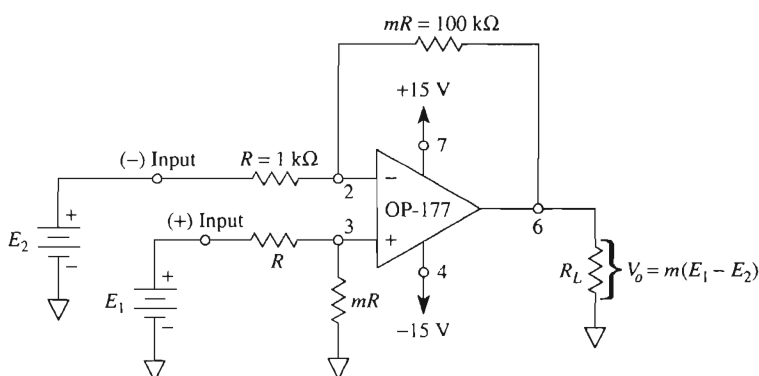
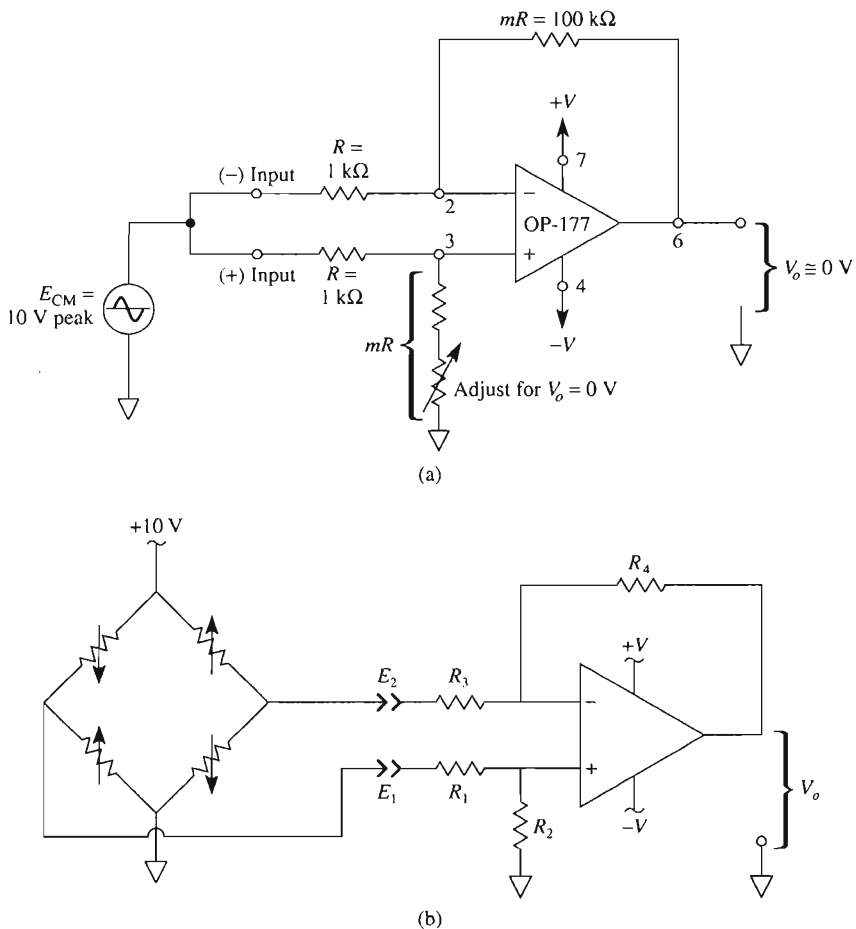
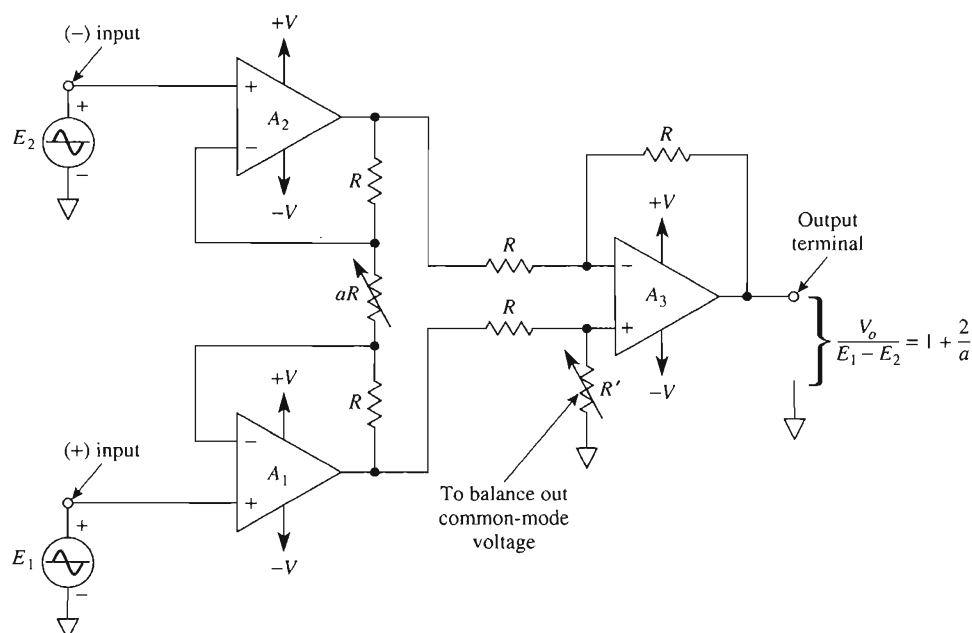

FIGURE 8-1 Basic differential amplifier (subtractor circuit).
FIGURE 8-2 (a) The common-mode voltage gain should be zero. (b) Basic differential amplifier connected to a Wheatstone bridge.
FIGURE 8-6 Basic instrumentation amplifier model.
Four precision (1%) resistors and an op amp make up a differential amplifier, as shown in Fig. 8-1. There are two input terminals, labeled (–) input and (+) input, corresponding to the closest op amp terminal. If E_1 is replaced by a short circuit, E_2 sees an inverting amplifier with a gain of $-m$. Therefore, the output voltage due to E_2 is $-mE_2$. Now let E_2 be short-circuited; E_1 divides between R and mR to apply a voltage of $E_1m/(1 + m)$ at the op amp's (+) input. This divided voltage sees a noninverting amplifier with a gain of $(m + 1)$. The output voltage due to E_1 is the divided voltage, $E_1m/(1 + m)$, times the noninverting amplifier gain, $(1 + m)$, which yields mE_1 . Therefore, E_1 is amplified at
In Fig. 8-1, the differential gain is found from
Refer to the basic differential amplifier circuit in Fig. 8-2(b). The difference voltage, $E_1 - E_2$, may be defined as input difference signal voltage, E_{ds} , and the average of the two inputs, $(E_1 + E_2)/2$, is defined as the common mode voltage, E_{cm} . In this circuit, the differential amplifier is being used to measure the voltage difference between the two output nodes of a Wheatstone bridge.
For the circuit of Fig. 8-2(b), the bridge is slightly unbalanced and the input voltages with respect to ground are $E_1 = 5 \text{ V} + 2 \text{ mV}$ and $E_2 = 5 \text{ V} - 2 \text{ mV}$. Determine (a) the input signal voltage and (b) the common mode voltage.
Referring to the circuit in Fig. 8-2(b) and using the superposition principle discussed in Section 8-1, the general equation for output voltage is
In this application, we have discussed only the common-mode rejection of the circuit and considered the op amp to be ideal. A disadvantage with the basic differential amplifier circuit in Fig. 8.2(b) is that a slight mismatch of the resistors causes a degradation of the CMR. In this example, the mismatch was R_2 , but a more common mismatch is the input resistors R_1 or R_3 because of loading effect(s). A solution to this problem will be covered in Section 8-3.
A differential amplifier is used to measure only the signal voltage (see Fig. 8-4). The signal voltage E_i is connected across the (+) and (−) inputs of the differential amplifier. Therefore, E_i is amplified by a gain of -100 . Noise voltage E_n becomes the common-mode voltage input voltage to the differential amplifier as shown in Fig. 8-2. (*Note:* Apply superposition.) Therefore, the noise voltage is *not* amplified and has been effectively eliminated from having any significant effect on the output V_o , as long as the resistors are matched as shown.
There are two disadvantages to the basic differential amplifier studied thus far: It has low input resistance, and changing gain is difficult because the resistor ratios must be closely matched. The first disadvantage is eliminated by *buffering* or isolating the inputs with voltage followers. This is accomplished with two op amps connected as voltage followers in Fig. 8-5(a). The output of op amp A_1 with respect to ground is E_1 , and the output of op amp A_2 with respect to ground is E_2 . The differential output voltage V_o is developed across the load resistor R_L . V_o equals the difference between E_1 and E_2 ($V_o = E_1 - E_2$). Note that the output of the basic differential amplifier of Fig. 8-1 is a single-ended output; that is, one side of R_L is connected to ground, and V_o is measured from the output pin of the op amp to ground. The buffered differential amplifier of Fig. 8-5(a) is a differential output; that is, neither side of R_L is connected to ground, and V_o is measured only across R_L .
The instrumentation amplifier (IA) is one of the most useful, precise, and versatile amplifiers available today. You will find at least one in every data acquisition unit. The basic IA is made from three op amps and seven resistors, as shown in Fig. 8-6. To simplify circuit analysis, note that the instrumentation amplifier is actually made by connecting a buffered amplifier [Fig. 8-5(b)] to a basic differential amplifier (Fig. 8-1). Op amp A_3 and its four equal resistors, R , form a differential amplifier with a gain of 1. Only the A_3 resistors have to be matched. The primed resistor, R' , can be made variable to balance out any common-mode voltage, as shown in Fig. 8-2. Only *one* resistor, aR , is used to set the gain according to Eq. (8-6), repeated here for convenience:
In Fig. 8-6, $R = 25 \text{ k}\Omega$ and $aR = 50 \text{ }\Omega$. Calculate the voltage gain.
If aR is removed in Fig. 8-6 so that $aR = \infty$, what is the voltage gain?
In Fig. 8-6, the following voltages are applied to the inputs. Each voltage polarity is given with respect to ground. Assuming the gain of 1001 from Example 8-3, find V_o for (a) $E_1 = 5.001 \text{ V}$ and $E_2 = 5.002 \text{ V}$; (b) $E_1 = 5.001 \text{ V}$ and $E_2 = 5.000 \text{ V}$; (c) $E_1 = -1.001 \text{ V}$, $E_2 = -1.002 \text{ V}$.
In some signal conditioning applications, it is desirable to offset the output voltage to a reference level other than 0 V. (For example, it would be convenient to position a pen on a chart recorder or an oscilloscope trace at a level other than zero.) This can be done quite easily by adding a reference voltage in series with one resistor of the basic differential amplifier. Assume that E_1 and E_2 are set equal to 0 V in Fig. 8-6(a). The outputs of A_1 and A_2 will equal 0 V. Thus, we can show the inputs of the differential amplifier, A_3 as 0 V in Fig. 8-7(a).
(a) Op amp 3 of the IA in Fig. 8-6 has its “normally grounded” terminal brought out; the new terminal is called “reference terminal,” R .
The versatility and performance of the instrumentation amplifier in Fig. 8-6 can be improved by breaking the negative feedback loop around op amp A_3 and bringing out three terminals. As shown in Fig. 8-8, these terminals are *output* terminal O , *sense* terminal S , and *reference* terminal R . If long wires or a current-boost transistor are required between the instrumentation amplifier and load, there will be voltage drops across the connecting wires. To eliminate these voltage drops, the sense terminal and reference terminal are wired *directly to the load*. Now, wire resistance is added equally to resistors in series with the sense and reference terminals to minimize any mismatch. Even more important, by sensing voltage at the load terminals and *not* at the amplifier's output terminal, feedback acts to hold load voltage constant. If only the basic differential amplifier is used, the out-